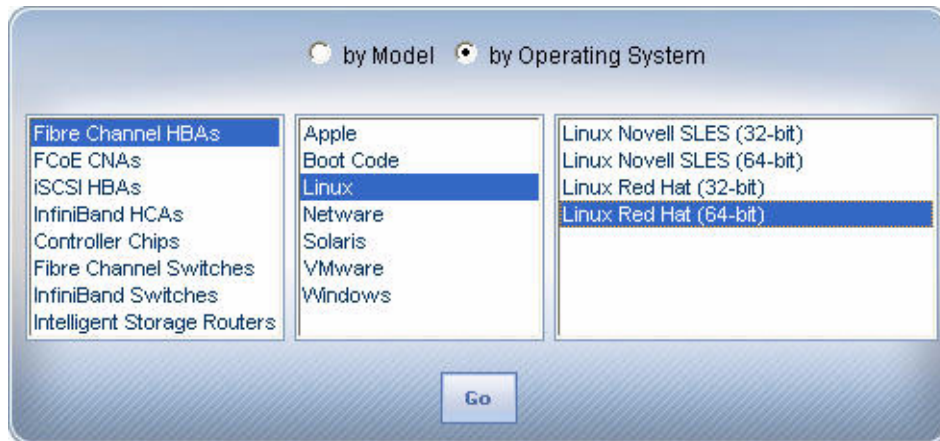

Figure 2-3 Downloading SANsurfer FC HBA Manager—Linux
2. Click the **by Operating System** button, and then select **Fibre Channel HBAs**, **Linux** (or **Windows**) OS, and the specific OS version. Figure 2-3 shows an example of selecting Linux Red Hat® 64-bit.